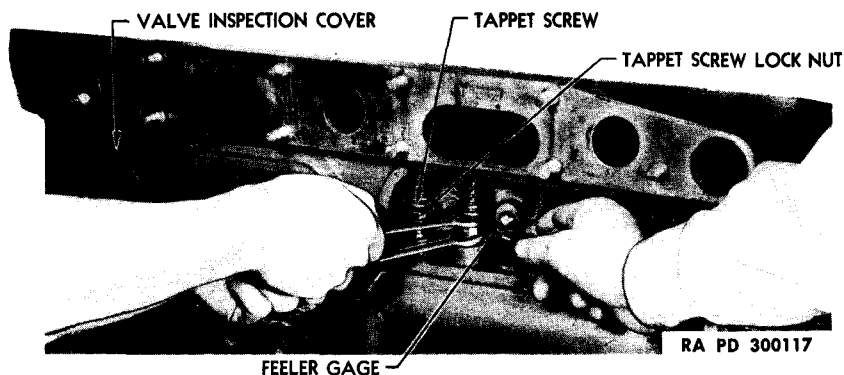

Figure 21—Adjusting Valve Tappet Clearance
d. **Adjust Clearance.** Place flat 0.006-inch feeler gage between the tappet and valve stem. Loosen lock nut and adjust tappet screw until a slight drag is felt when withdrawing feeler gage (fig. 21).